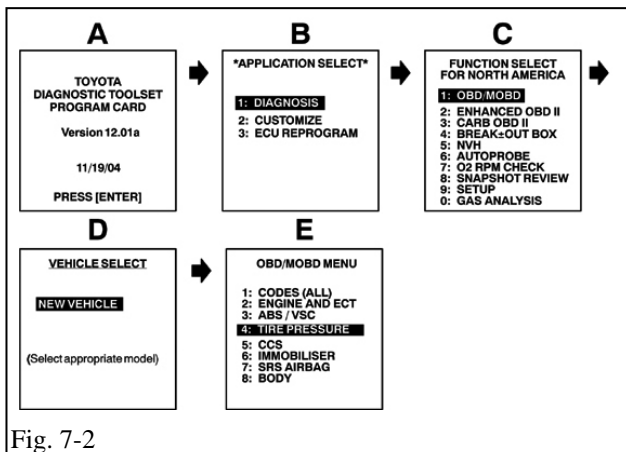

Fig. 7-2
- (d) Following the display on the hand-held tester, select the "DATA LIST." (Fig. 7-2)